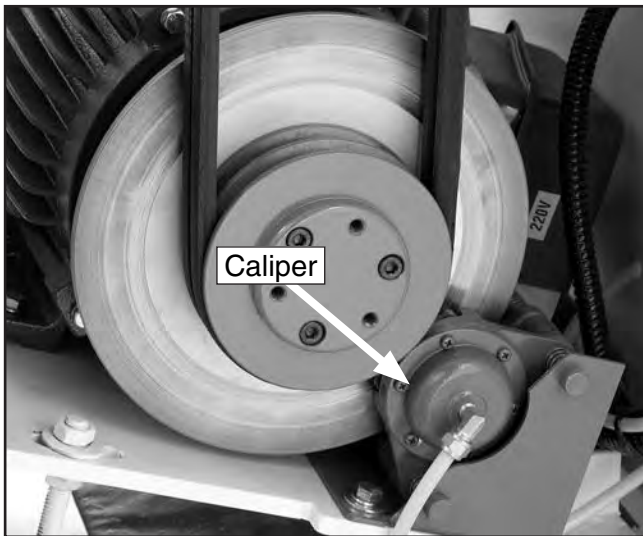

Figure 24. Disc brake.
3. The brake caliper is located underneath the rotor in **Figure 24**, which is attached to the motor arbor.